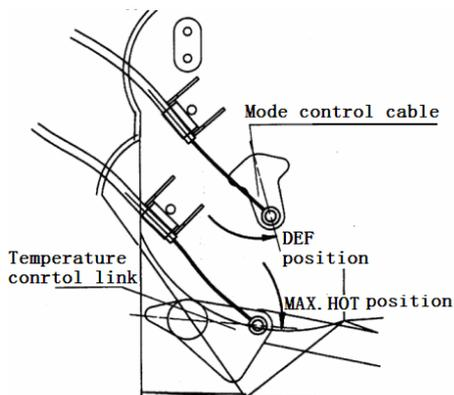

Fig.18-14
2 POINTS FOR INSTALLATION (Fig. 18-14)
1) MODE CONTROL CABLE (Fig. 18-14)